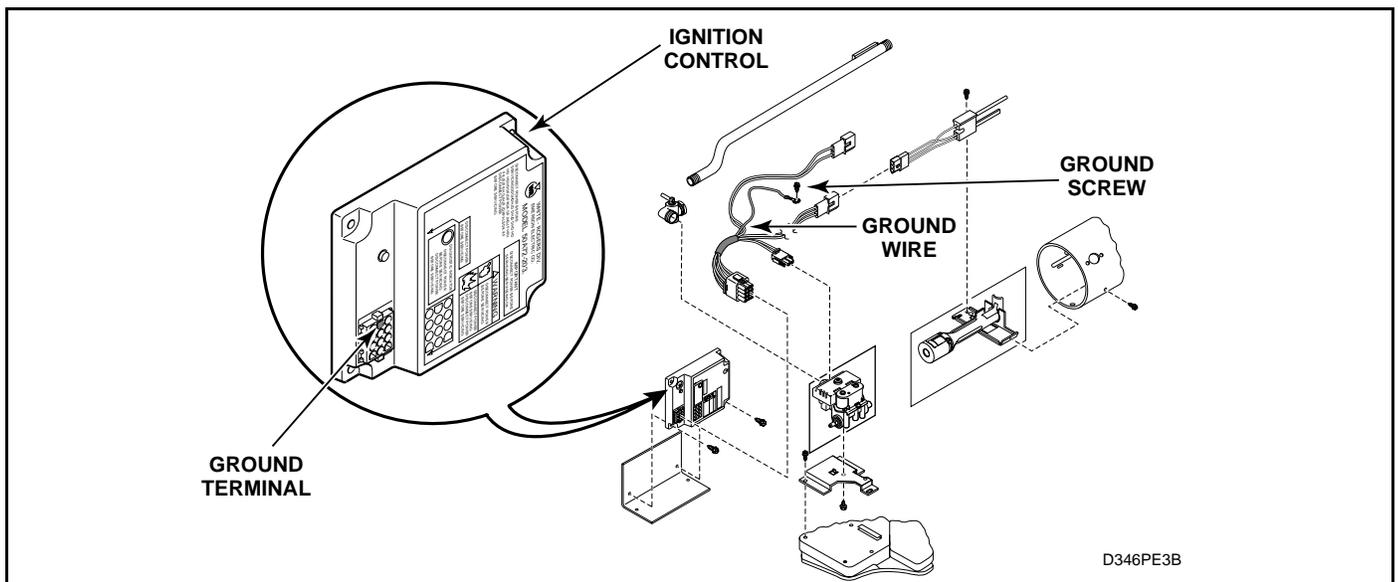

Figure 6
18. GROUND WIRES FROM DRYER BASE TO WIRE HARNESS AND TO IGNITION CONTROL (Gas Models With Silicon Nitrate Ignition System – Figure 6).